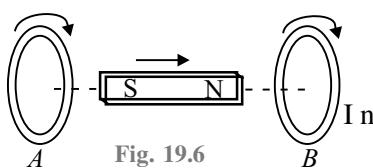

Fig. 19.6
1. The bar magnet in Fig.19.6 moves to the right. What is the sense of the induced current in the stationary loop *A*? In loop *B*?